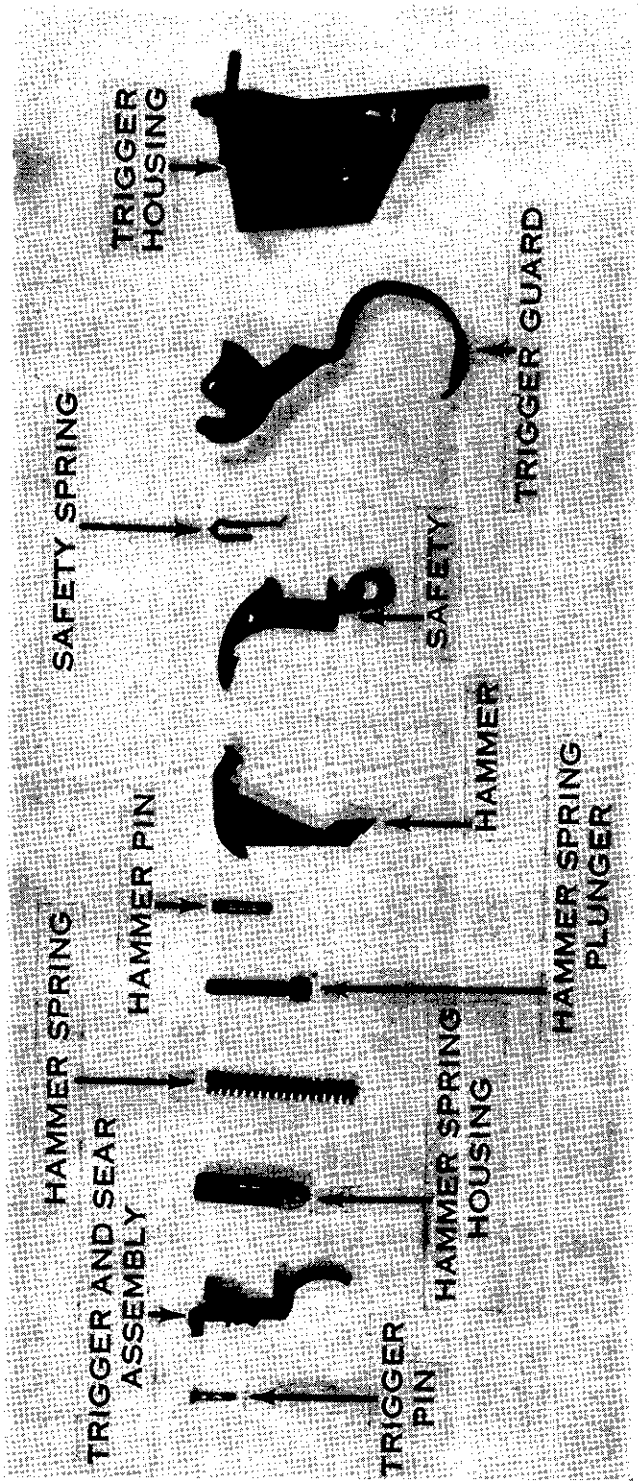

Figure 24. Parts of the firing mechanism assembly in the order of disassembly.
g. The parts of the firing mechanism assembly in the order of disassembly are shown in figure 24.